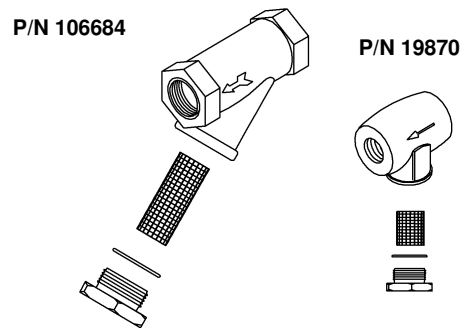

Figure 2-15 Water Strainer Assembly
- f) A 40 or 50-mesh water strainer (dirt filter) of one of the types and construction illustrated in Figure 2-15, Cleveland Range part number 106684 or 19870 is supplied with the unit and should be installed where indicated in the plumbing layout. **Note:** On some Models the strainer has already been installed as part of the internal water piping.